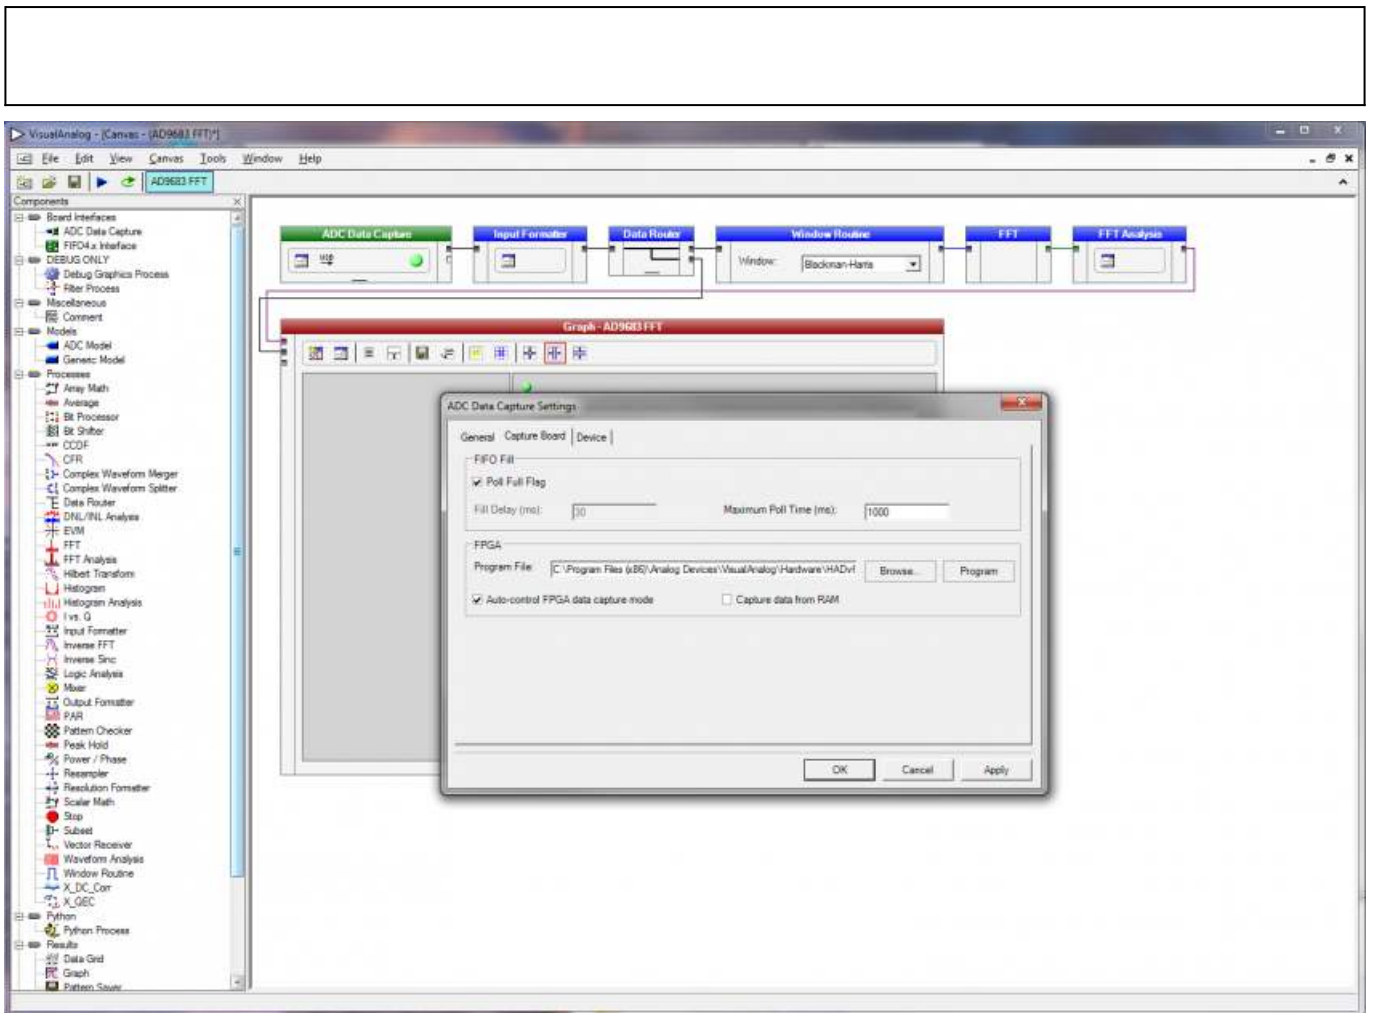

Figure 5. VisualAnalog ADC Data Capture Settings
3. Click the **Settings** button on the **ADC Data Capture** block. In the pop-up window select the **Capture Board** tab. Select the checkbox **Poll Full Flag**. This must be checked in order to get data capture from the AD9683 and AD6677 (see Figure 5).